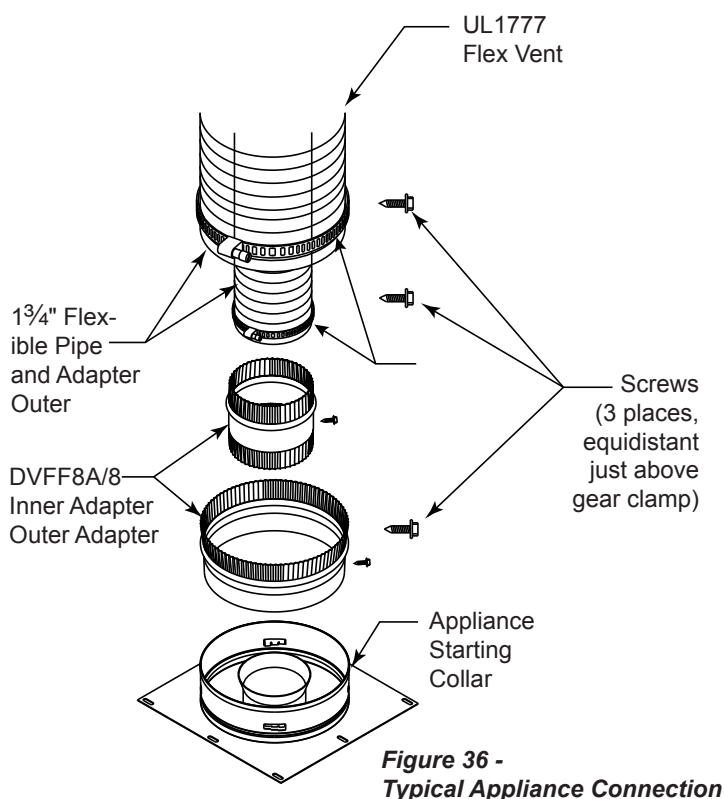

Figure 36 - Typical Appliance Connection
- The flex adapter starter kit (DVFF8A/8) is used to attach flex venting to the appliance starting collar. It includes 5" inner and 8" outer adapter rings. *Figure 36*
- Installing the outer flex pipe. *Figure 36*